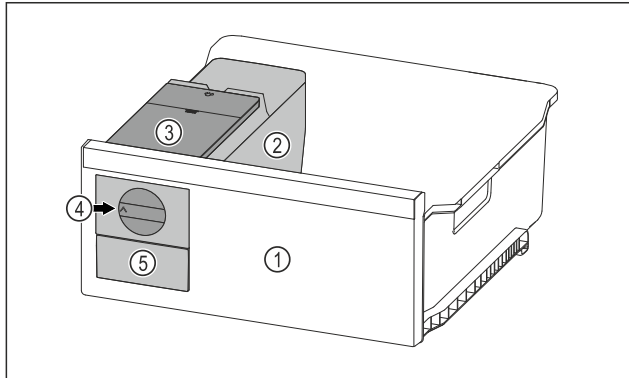

Fig. 109 Example illustration
- ▶ Turn the rotary knob Fig. 109 (4) clockwise as far as it will go.
- ▶ Ice cubes fall from the ice cube tray into the ice cube drawer Fig. 109 (5).